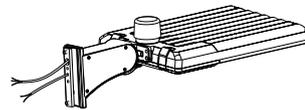

Figure 4
Step 2: Install the bracket on the fixture, then cover the side lid and tighten it. (Figure 4)